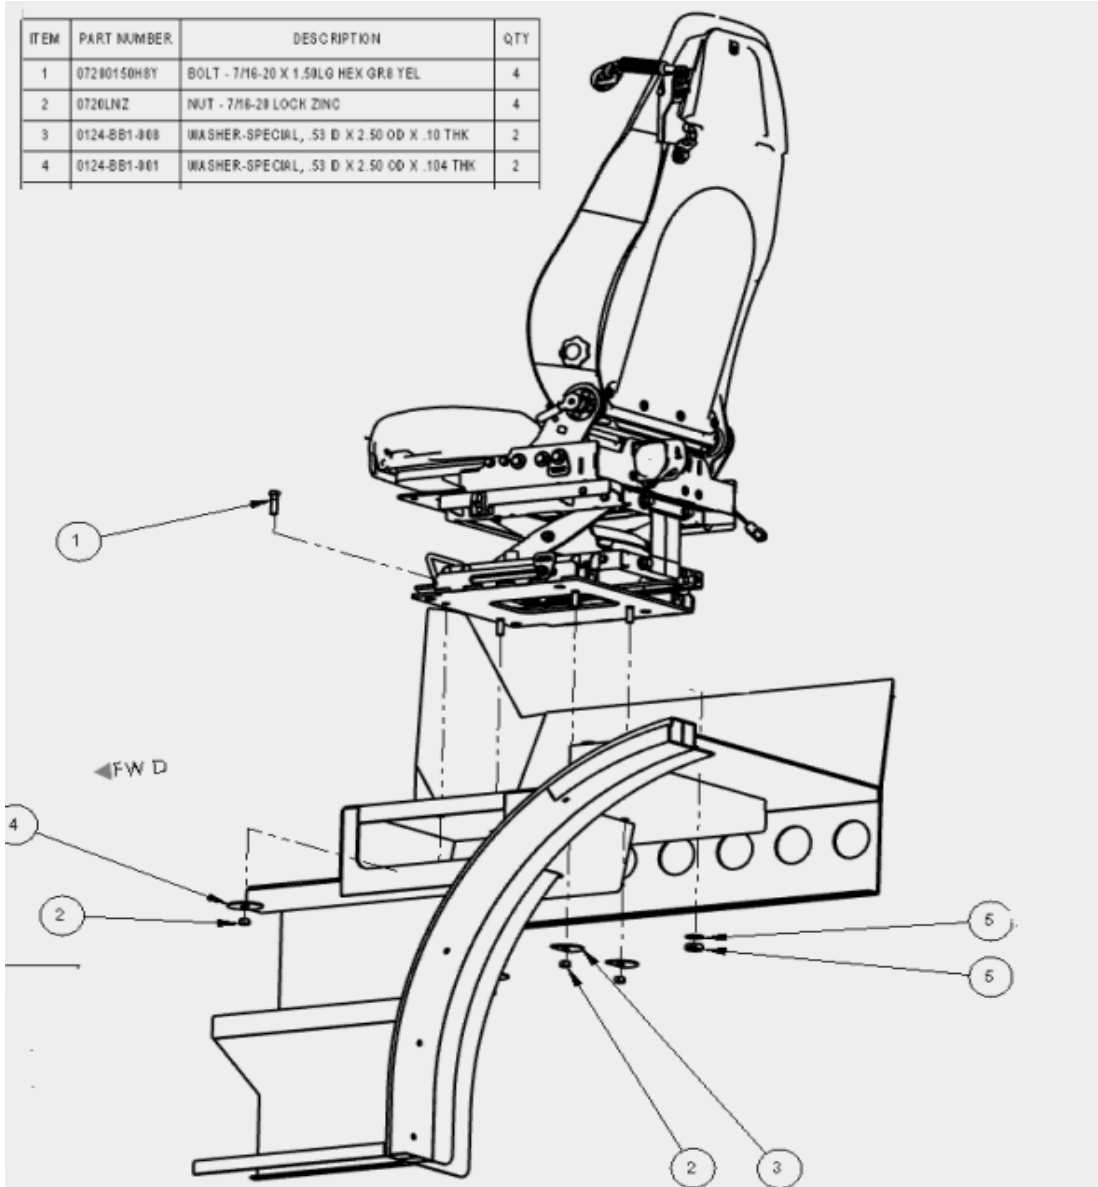

Figure 3.1
- 1) Locate driver seat mounting bolts. *See Figure 3.1*
- 5) If bolts are 3/8 inch, replace with 7/16 inch hardware as shown in figure 3.1.